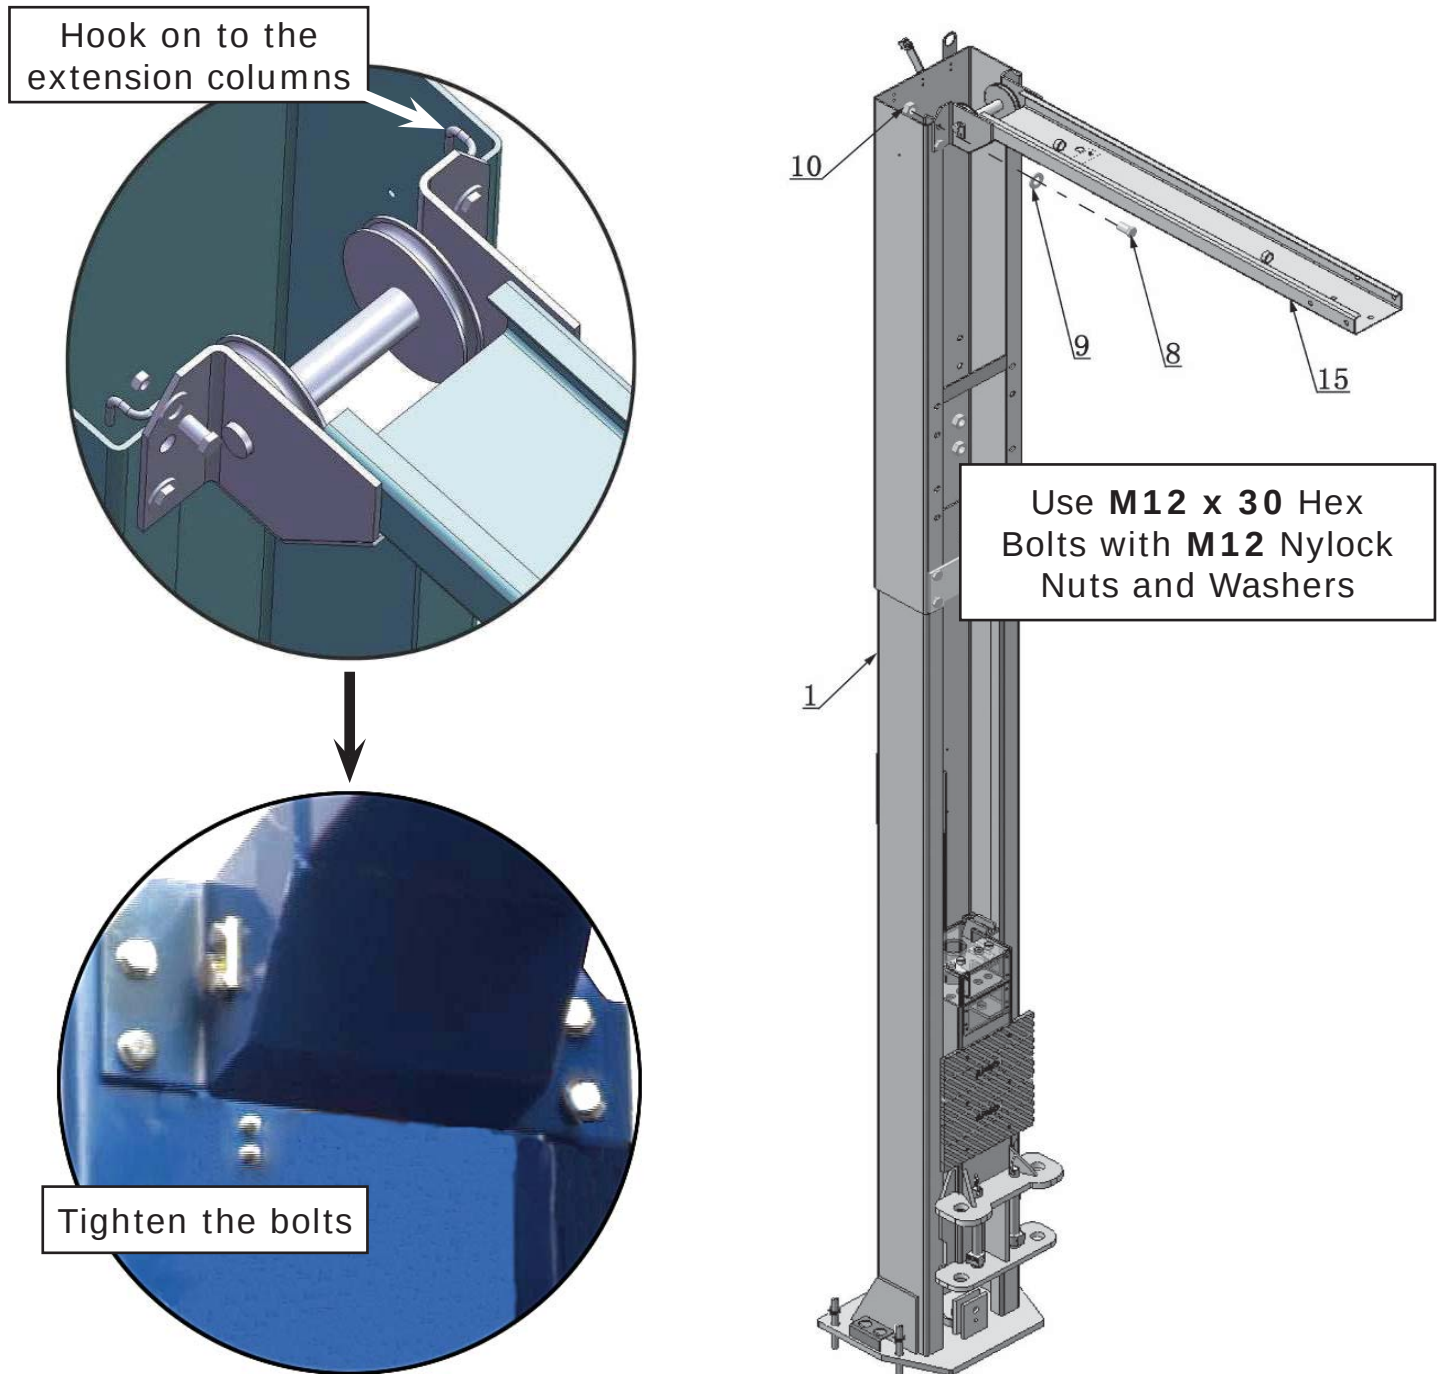

Fig. 21
1. Position the columns so the base plates line up with the chalk line. It is recommended to install the power side column on the passenger side of the vehicle. Meanwhile, assemble the overhead top beam (**See fig.21, 22**). Spread the columns to approximately 122-5/8" from inside column to inside column. Install the overhead top beam.
1. With help of the hooks on the top beam, hang the top beam on top of the extension columns and connect the top beam to the extension columns with bolts, tighten the bolts (**See Fig. 21**).